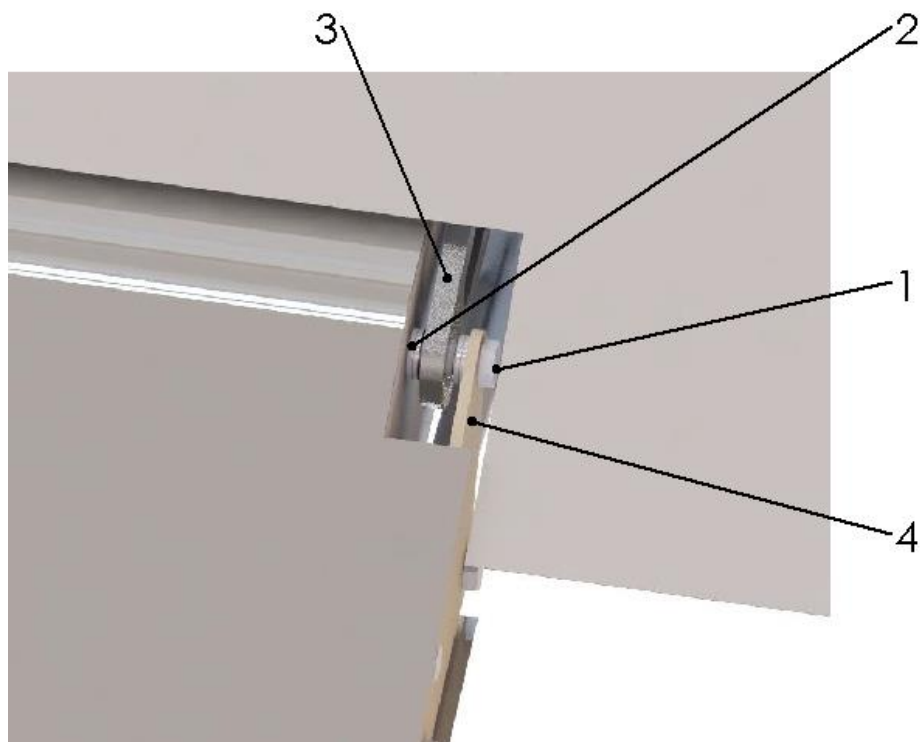

Fig. 57-52-2
1	Match the hole on the root aileron bracket (4) with the hole in the bearing of the wing bracket (3) and the aileron. Connect them with bolt (1) and washers (2) Fig. 57-52-2). The aileron mounting bolts are secured with safety wire according to AC43-13.